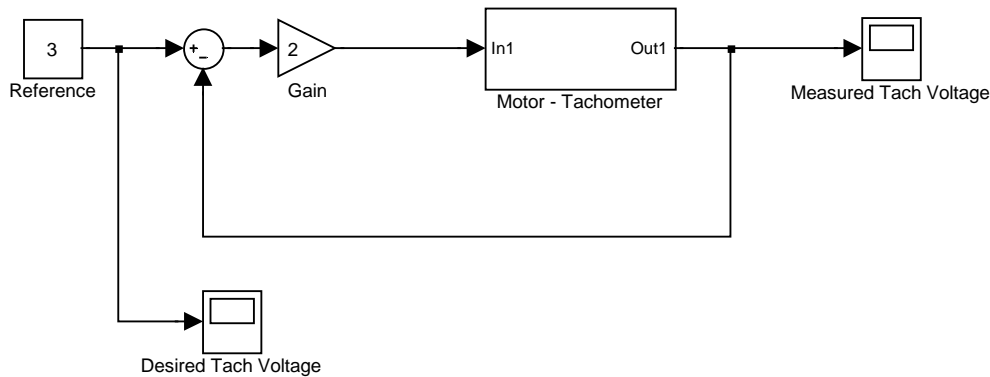

Figure 11: Model for closed-loop control. Subsystem contents are shown in Fig. 10.
1. Create the model shown in Fig. 11.